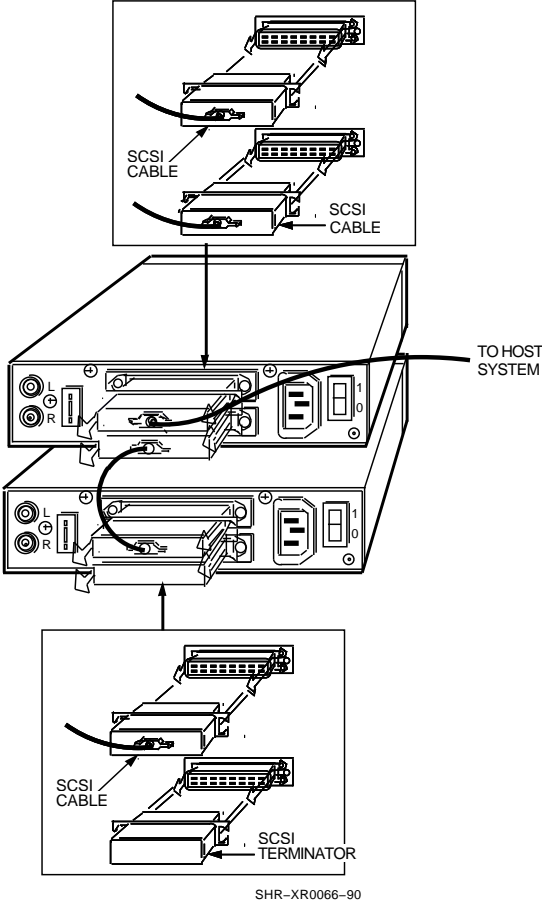

Figure 2-5 Connecting the 50-Pin SCSI Signal Cable — Drive to Drive
1. See Figure 2-5.
Figure 2-5 shows how to connect the tabletop drive to another tabletop drive.